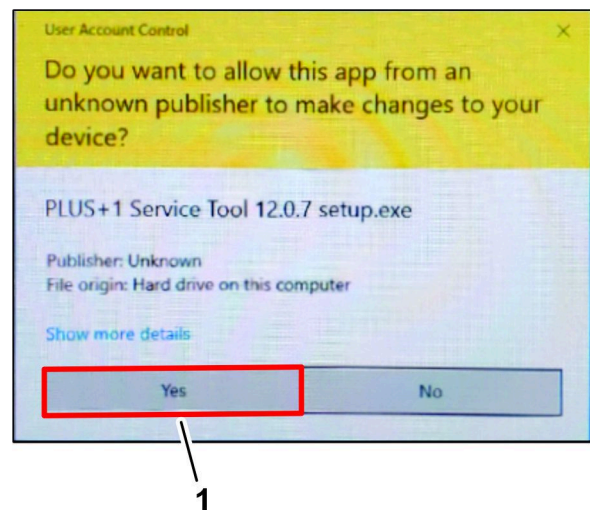

Figure 22
4. If the User Account Control dialog box displays, click the YES button (Figure 22).